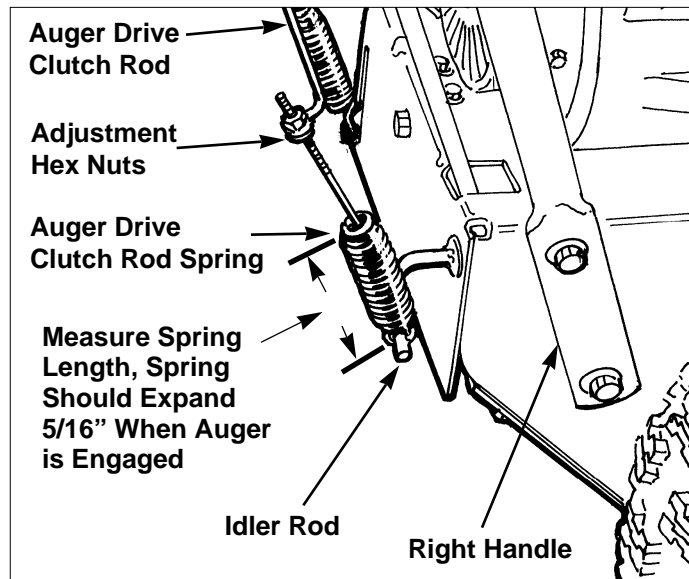

Figure 22a. Auger Drive Clutch Rod
2. Check that there is no slack in the auger drive clutch rod (see Figure 22a). If there is, follow the Auger Drive Clutch Rod Adjustment procedure on page 17.
3. Measure the length of the auger drive clutch spring (Figure 22a).